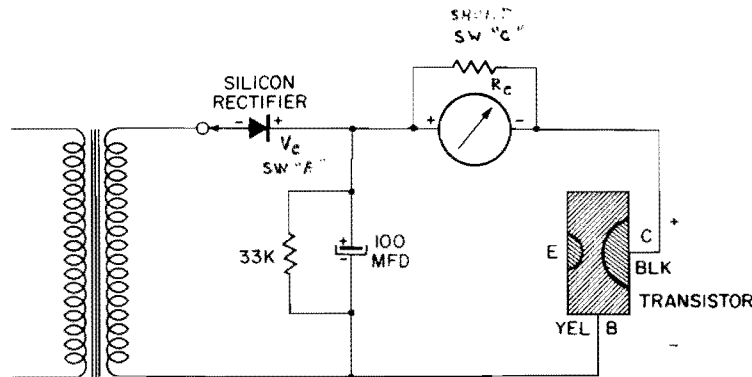

FIGURE 16
### "Icbo" Test Circuit (Figure 16)
1.  $I_{cbo}$  — This symbol indicates current flowing between collector and base with the emitter open. See Figure 16. The letter I of course, is the symbol for current; the next two symbols represent collector and base, the two parts of the transistor in which current is measured; o indicates the remaining element of the transistor, the emitter, is open for this test. In similar manner, a test requiring the current measurement between emitter and base, with the collector open, is represented by the symbol  $I_{ebo}$ . In fact, this test is sometimes used by transistor manufacturers.
As noted previously,  $I_{cbo}$  is the basic transistor test parameter. It should be the second test performed on all transistors with the Model T-65 tester. A simplified circuit for this test is pictured in Figure 16.